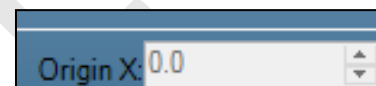

Fig 32: Adjusting the Carriage Position
**Step 2:** After positioning the carriage, *click* on the **Set print origin** icon on the **Quick Access Toolbar** (Refer to Fig 32).